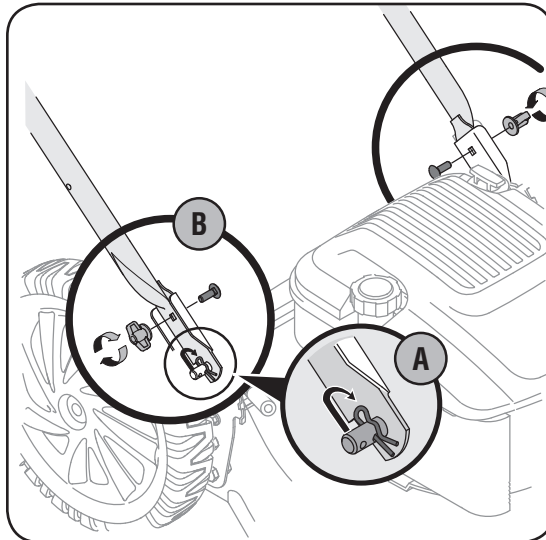

Figure 2
- b. Place one carriage bolt (found in the hardware pack included with your unit) in the upper hole of the right handle mounting bracket from the inside outward. See Figure 2. Secure with one wing nut (star knobs). Repeat process on the left side.